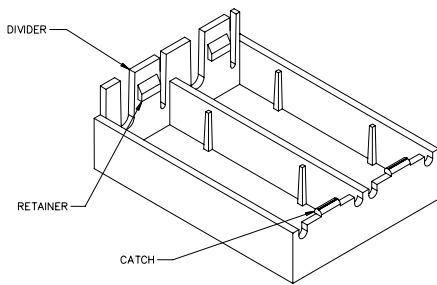

Figure 2
- 3.4 Engage the right end ledge under the catch. (See Figure 2)